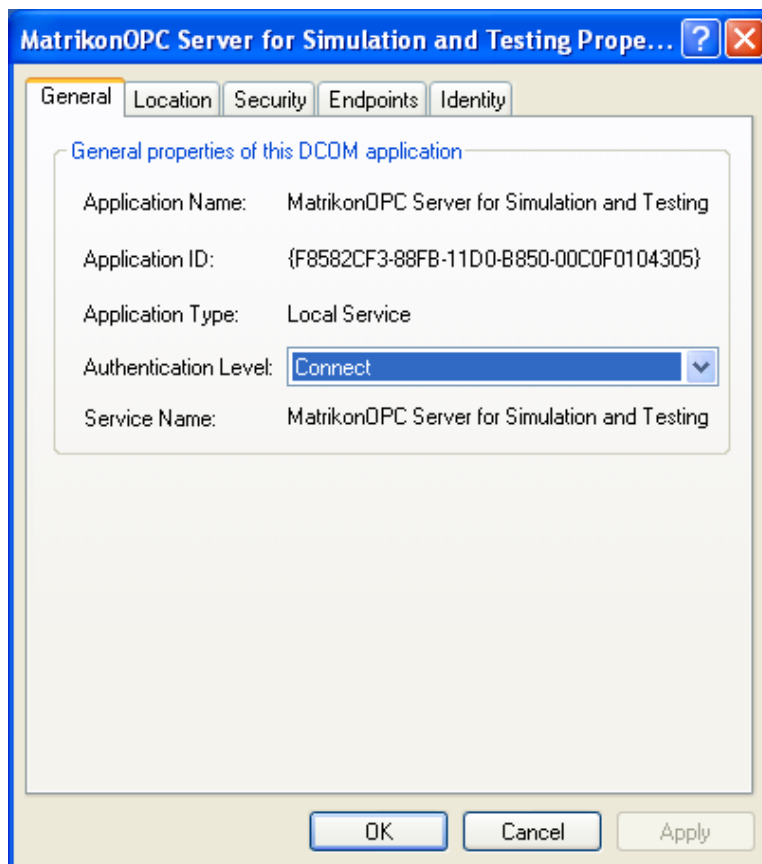

Figure 61 - Distributed COM Configuration Properties Window
3. The **Distributed COM Configuration Properties** window (Figure 61) appears.